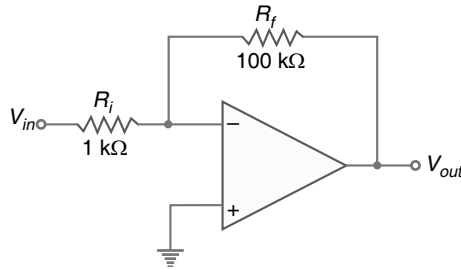

Fig. 23.69
**Example 23.43.** Find the values of the input and output impedances in Fig. 23.69. Also determine the closed-loop voltage gain. The OP-amp has the following parameters :  $Z_{in} = 4 \text{ M}\Omega$  ;  $Z_{out} = 50 \Omega$  and open-loop voltage gain = 50,000.